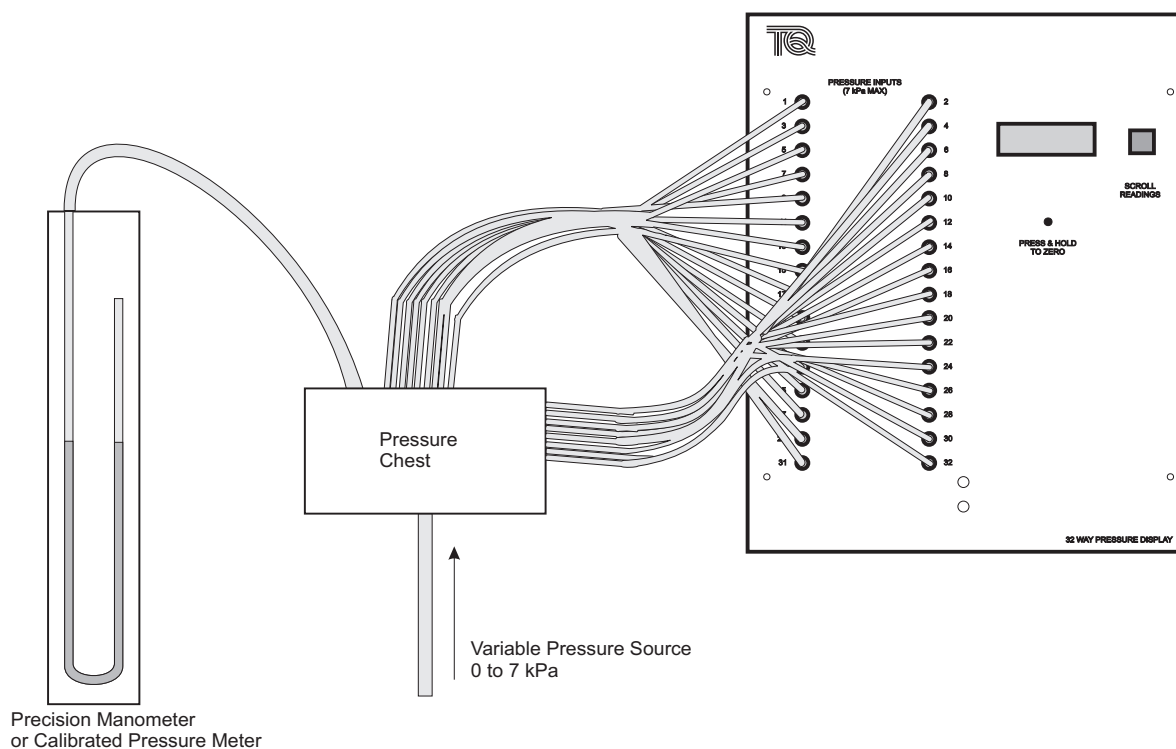

Figure 7 Connections for Calibration
1. Connect the AFA6 to the pressure chest and manometer as shown in Figure 7. Do not apply any pressure yet.